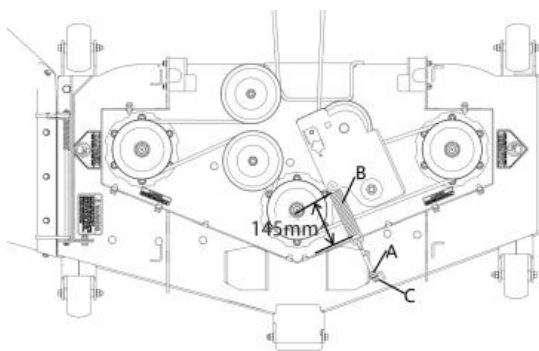

Fig. 19
need adjustment after **the first hour of initial use**. Periodically belt should be checked for proper tension, following the procedure below(Refer to Fig. 19).
- Loosen the lock nut (A) and adjust the nut (C) to change belt tension.
- Increase belt tension by turning the nut (C) clockwise and decrease belt tension by turning the nut counterclockwise(Refer to Fig. 19).
- The idler spring (B) body length should measure approximately 145mm for proper belt tension.
- Tighten the lock nut (A) when the proper belt tension is achieved.